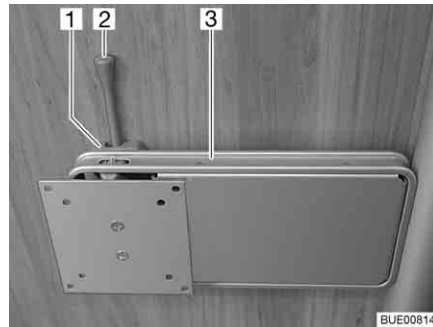

Fig. 59 Holder on the column
- Push the release lever (Fig. 59,2) to the side and turn the holder (Fig. 59,3) with the flat screen to the desired position.
- Turn flat screen back until the holder (Fig. 59,3) engages in the lock (Fig. 59,1).